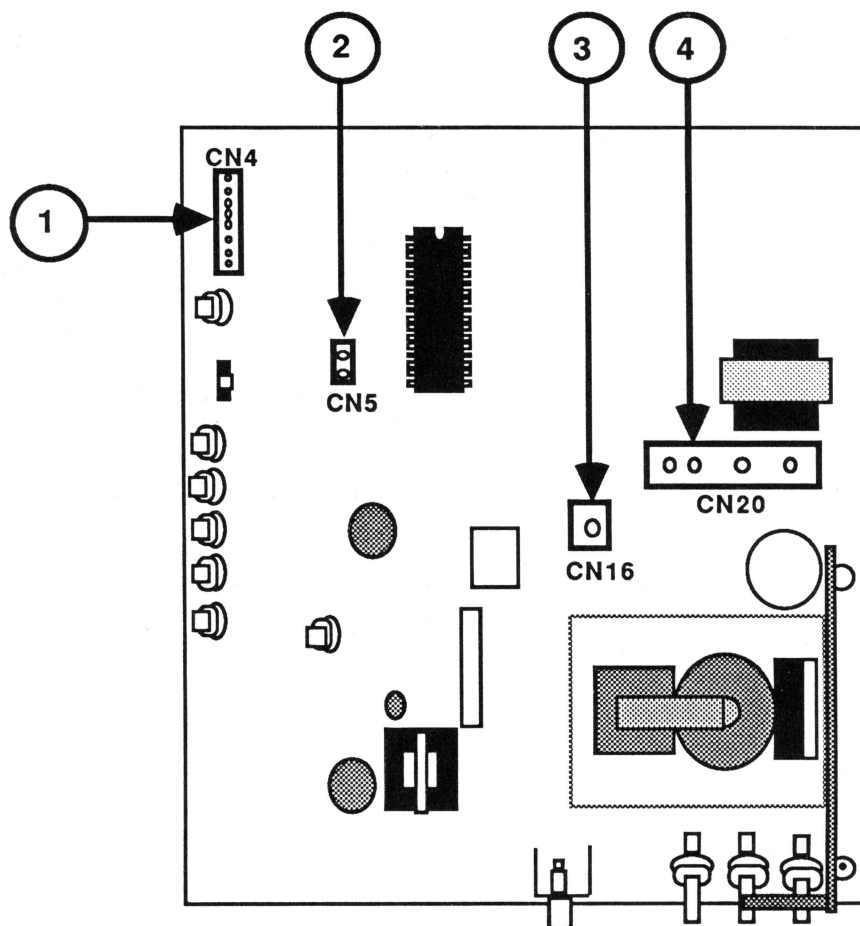

FIGURE 12
- a) CN4 -- Figure 12, #1
- b) CN5 -- Figure 12, #2
- c) CN16 -- Figure 12, #3
- d) CN20 -- Figure 12, #4